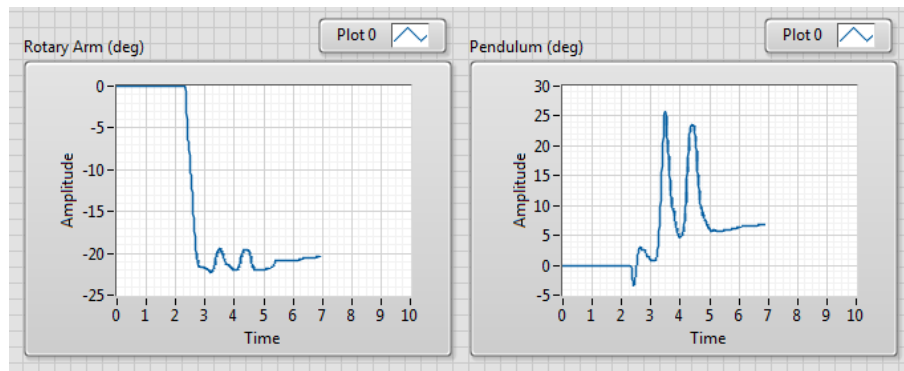

Figure 9.3: Measured rotary arm and pendulum angles
3. Rotate the rotary arm and pendulum counter-clockwise and examine the response on the scopes. Example responses are shown in Figure 9.3. Do the measured angles follow the modeling conventions given in Section 9.1.